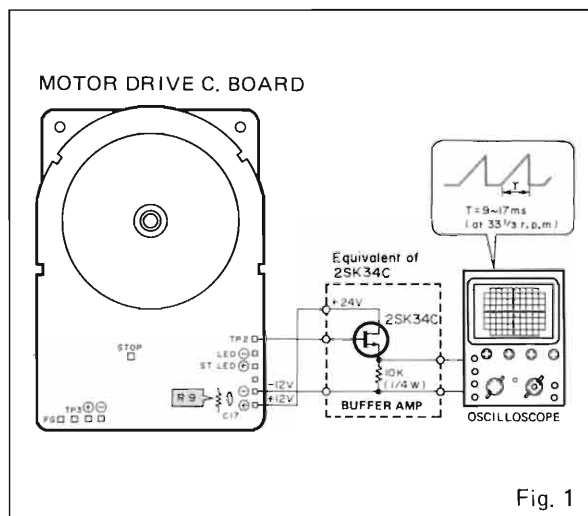

Fig. 1
- 1) Connect buffer amplifier to motor drive c. board as shown in Fig. 1.